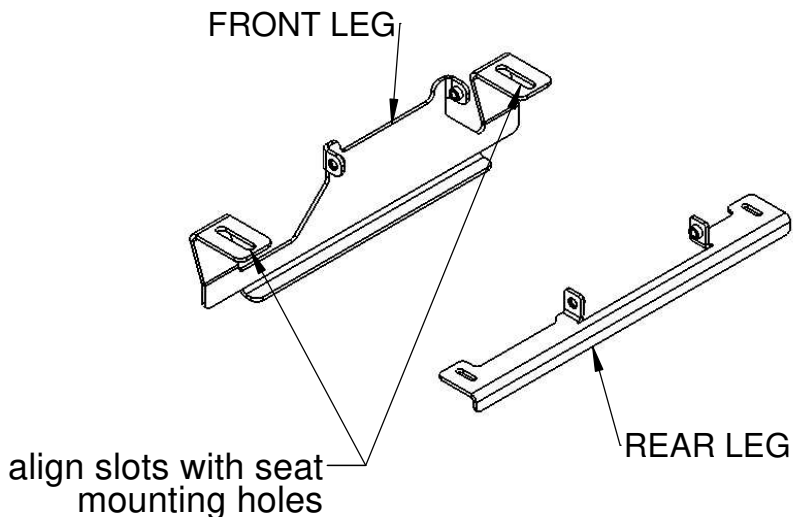

Figure 1
3. Lift the driver seat upward and slide the front leg between the seat and seat pedestal such that the slot in the leg line-up with the seat bolt hole in the pedestal. See Figure 1.